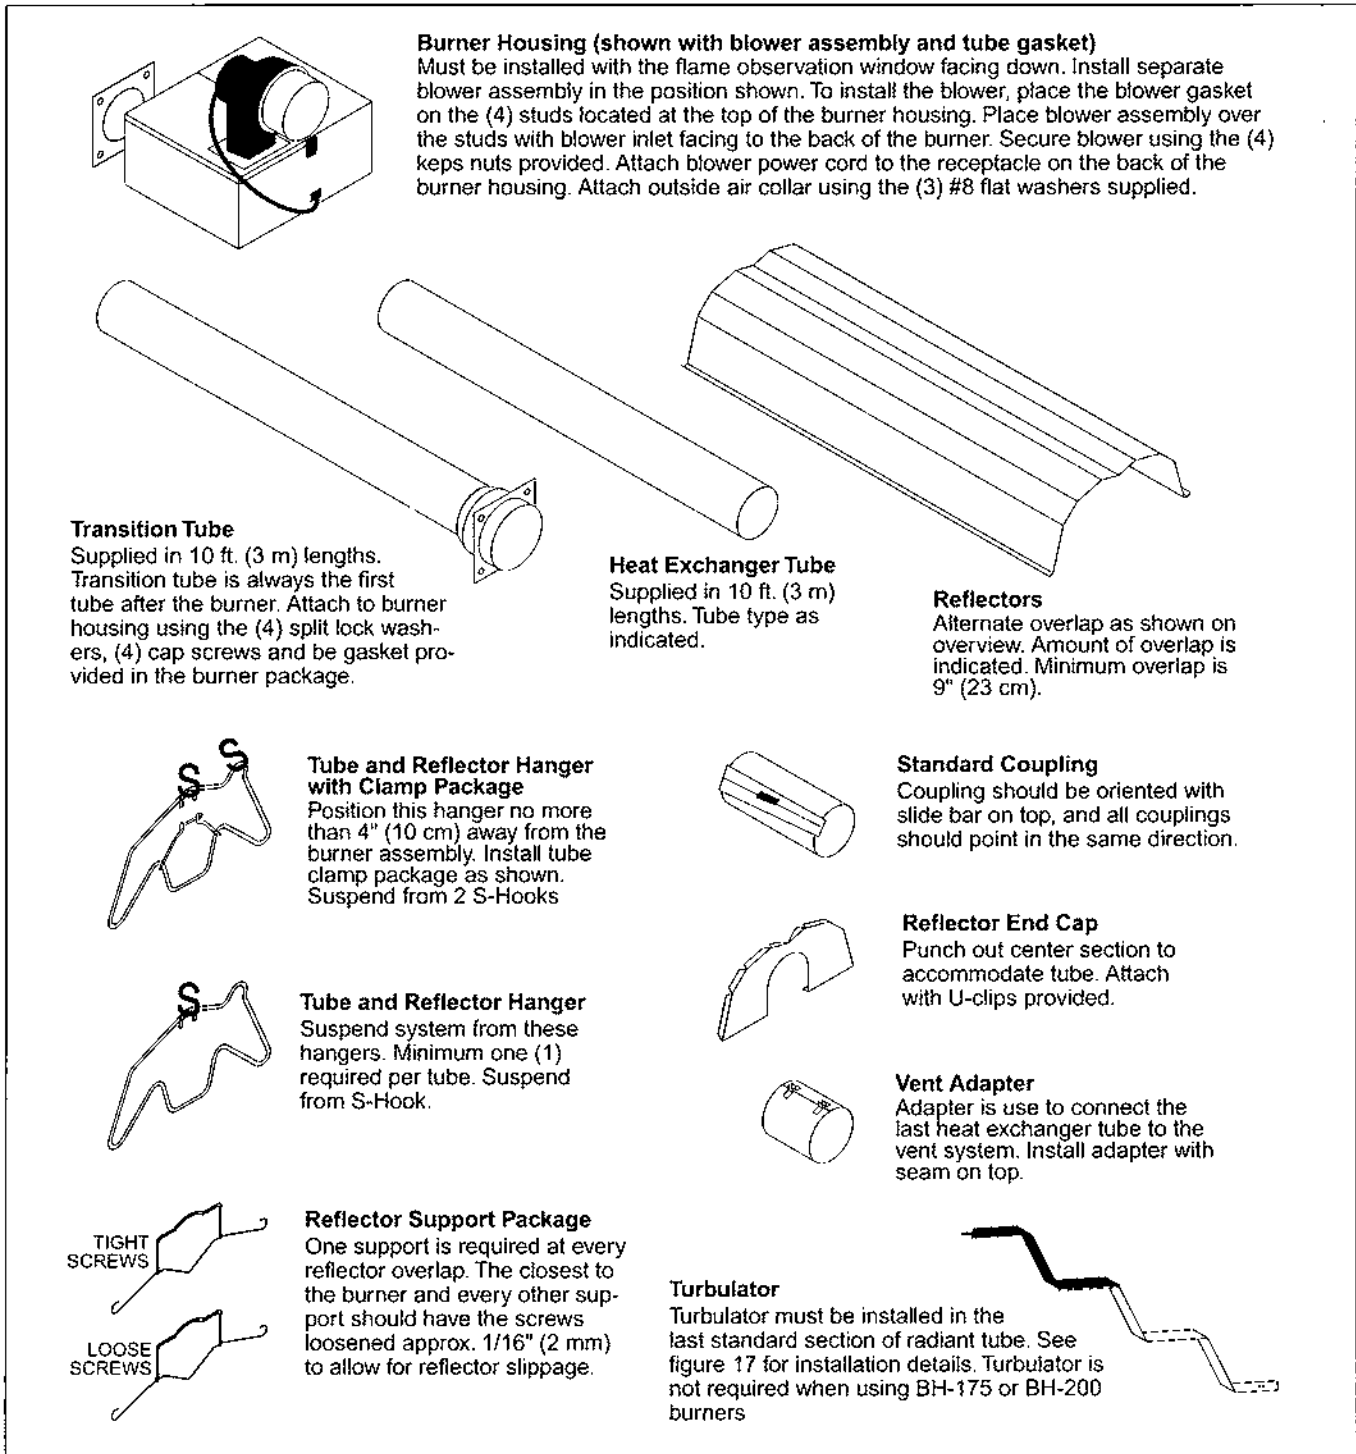

Figure 2. Assembly Overview
such as end caps may be duplicated.) Necessary packages for the various heaters are shown in Table 1 below. Components should be assembled as per Figures 2 through 20.
- 2) In some cases, BH-Series heaters may be received with the accessory components non-cartoned, or packaged for a specific installation. In those cases, be sure to acquaint yourself with the individual components shown in Figure 2. Also follow carefully the appropriate diagram (Figures 3 through 9) for the heater you ordered. These indicate the quantity and location of all necessary components.